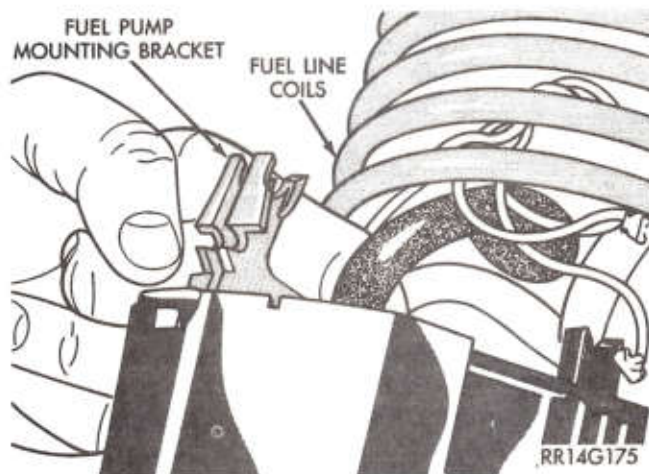

Fig. 7—Fuel Pump Mount Bracket
(5) Release the pump mounting bracket from the reservoir using thumb and fore fingers. Press the bracket with both thumbs toward the center of the reservoir (Figs. 7 and 8).
(5) Snap pump bracket/collar into the reservoir (Fig. 7).